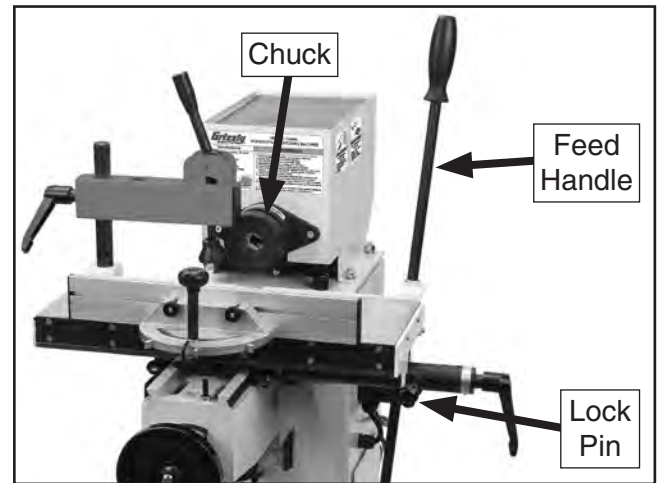

Figure 25. Controls for freehand boring operation.
- Pull lock pin out and rotate it 90° clockwise to disengage indexing guide (see **Figure 25**).